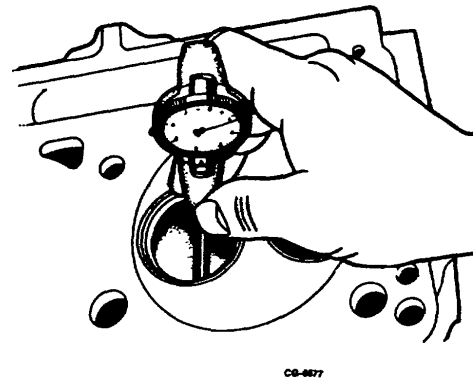

Figure 34. Checking Valve Guide Bore
8. Using equipment such as SE-1826 small bore gauge (and micrometer) or SE-2506 valve guide gauge, check valve guide bores (Figure 34). (See SPECIFICATIONS for proper guide bore diameter.) Replace guides having bore diameters outside recommended limits, are bellmouthed more than .0005" or which show egg-shaped wear.